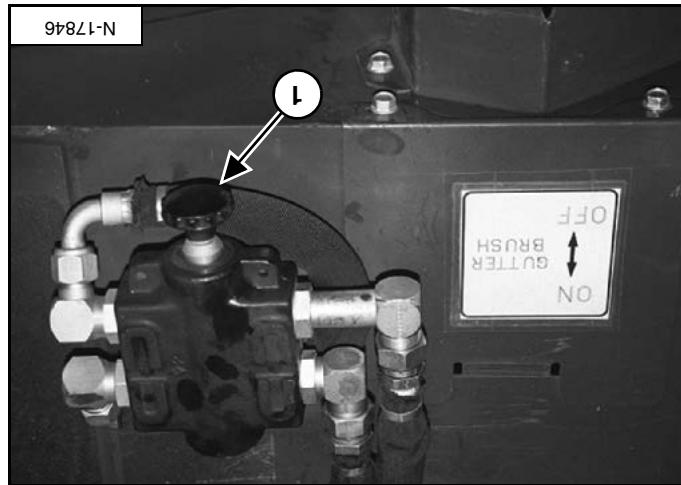

Figure 63
Push the knob (item 1) [Figure 63] into the ON position. The gutter brush will start to turn with the sweeper brush when the auxiliary hydraulics is engaged.